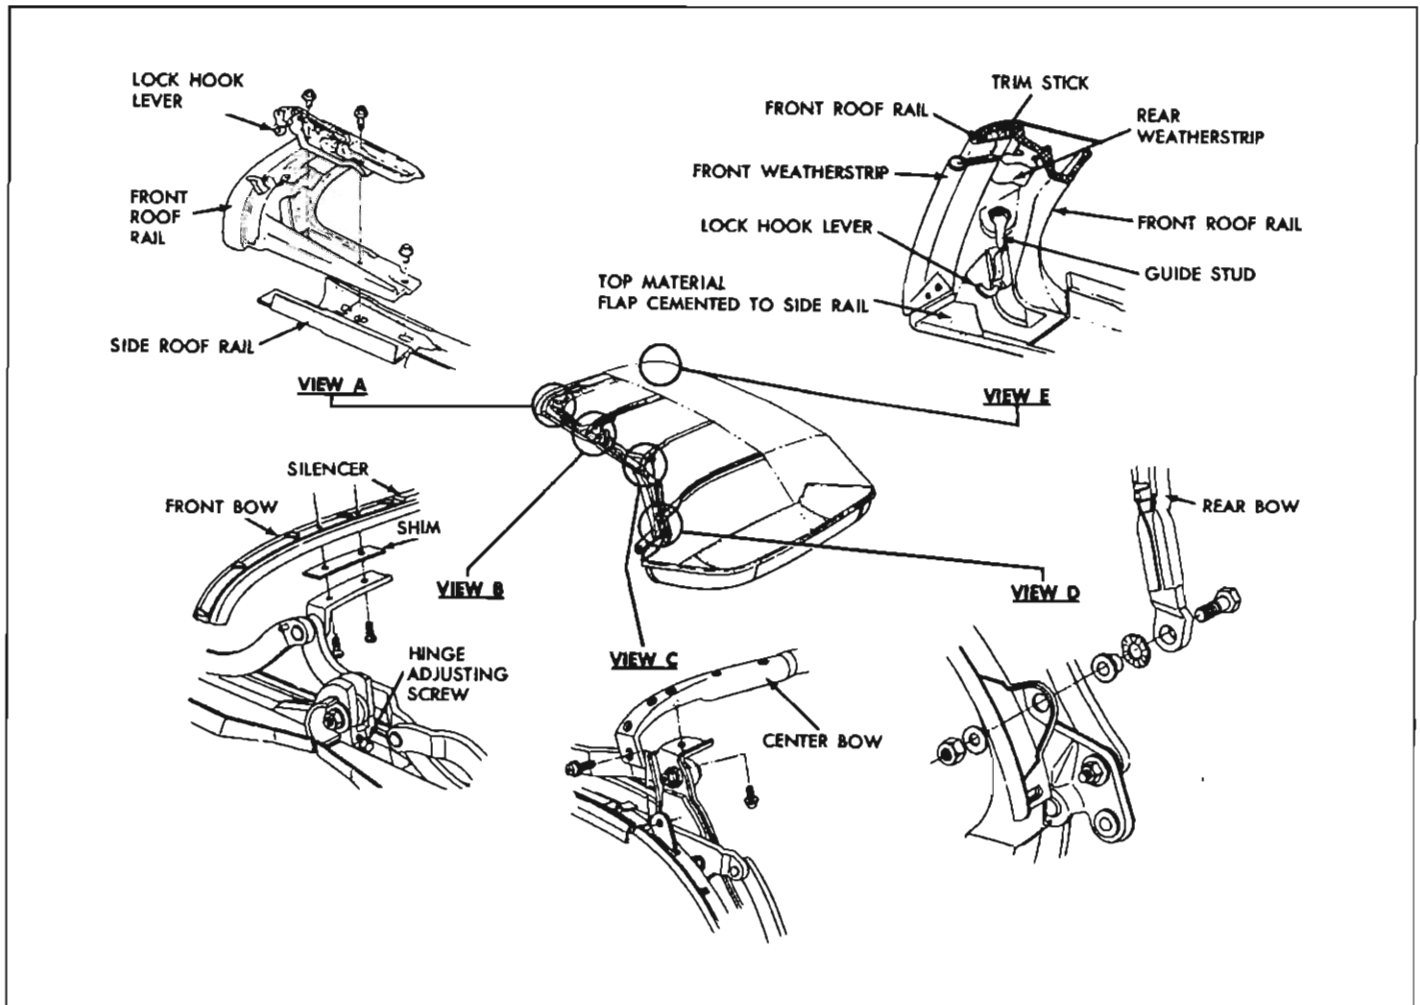

Fig. 33—Folding Top Linkage and Lock
2. Loosen guide sufficiently to permit adjustment (View E, Figure 33). Shift guide to desired position and retighten.
2. Loosen side roof front rail attaching bolts and adjust front roof rail fore or aft as required (View A, Figure 33). Repeat on opposite side if necessary.
2. With top in a half open position, remove lock attaching screws; then remove lock assembly from front roof rail (see View "A" in Figure 33).